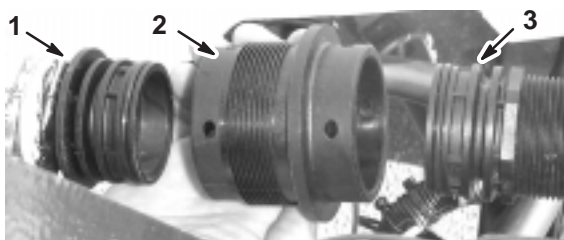

Figure 7
2. Connect the hose from the flow meter or supply tee as applicable to the control valve using an S67 female/female fitting and 2 large retainers (Fig. 7).